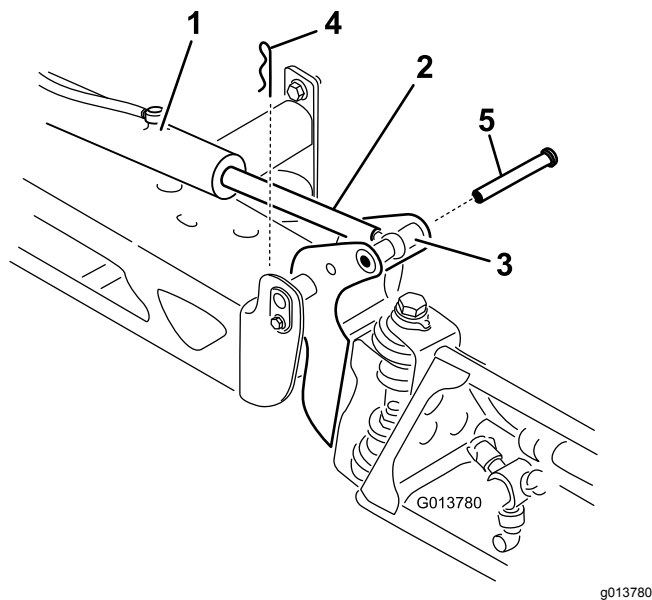

Figure 63
2. Remove the cotter pin from the pivot pin (Figure 63).
3. Lift up on the boom and remove the pin (Figure 63). Slowly lower the boom to the ground.
8. Raise the boom to align the pivot with the actuator rod. While holding the boom, insert the pin through both boom pivot and actuator rod (Figure 63).